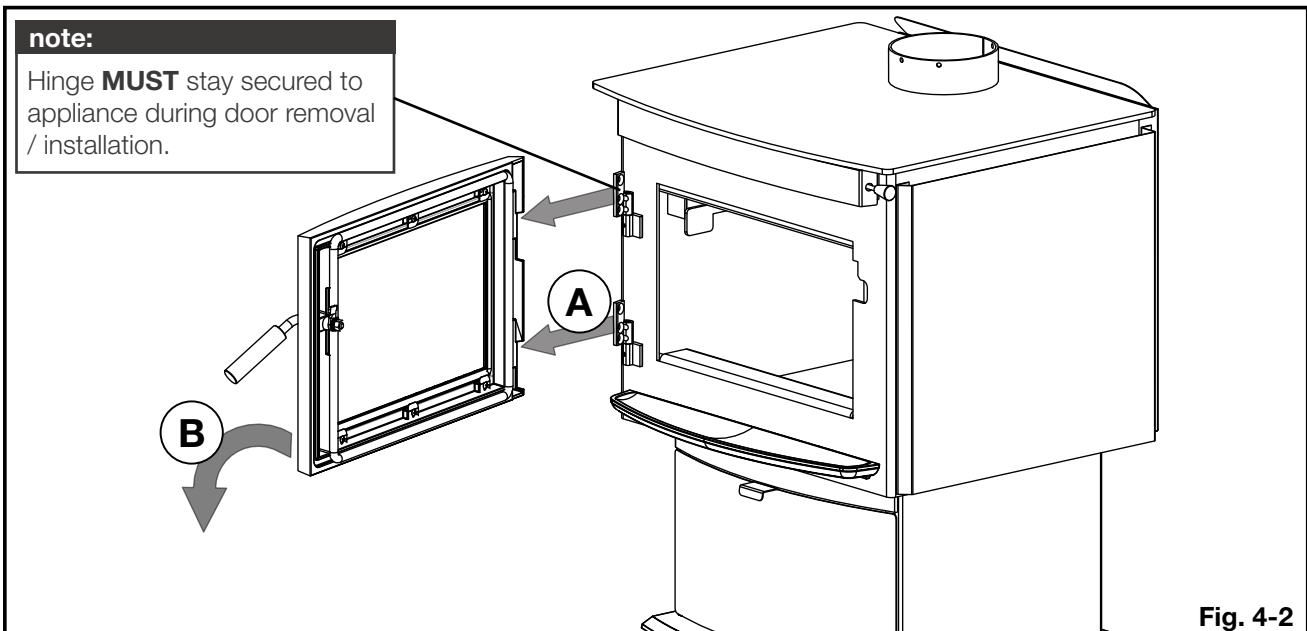

Fig. 4-2
2. Remove the door, placing it face down on a soft, non-abrasive surface (**Fig. 4-2**). Be careful not to scratch the paint.